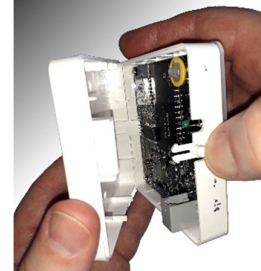

Fig 11
- Step 1** Press release button on side of Controller case and pull the back case away (see Fig 11).